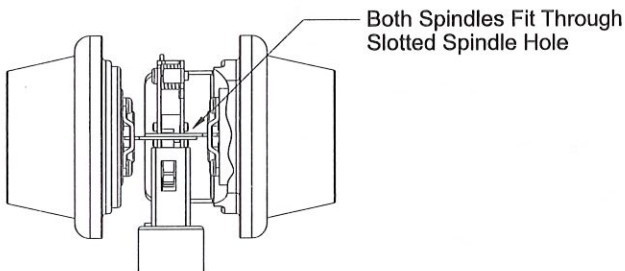

Figure 7
- Install each cylinder with its ring and rose as shown in Figure 7.